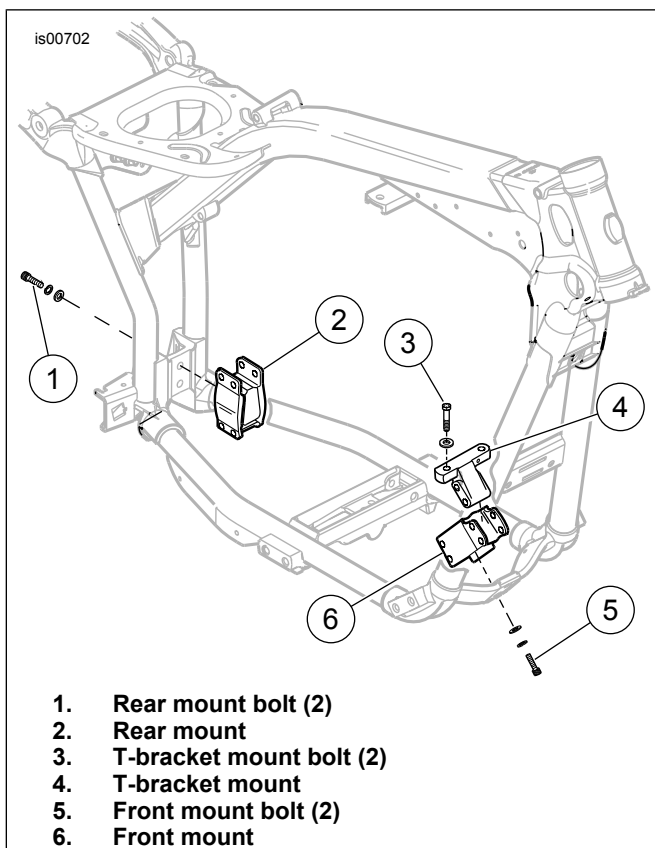

Figure 10. Vehicle Alignment
2. See Figure 10. Loosen the two front (5) and two rear (1) mount bolts.
6. See Figure 10. Loosen the two top bolts (3) of the T-bracket (4).